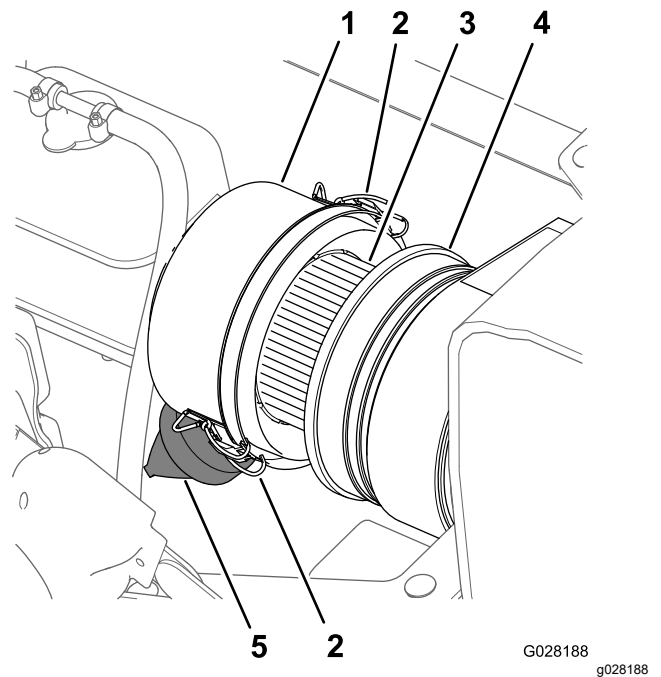
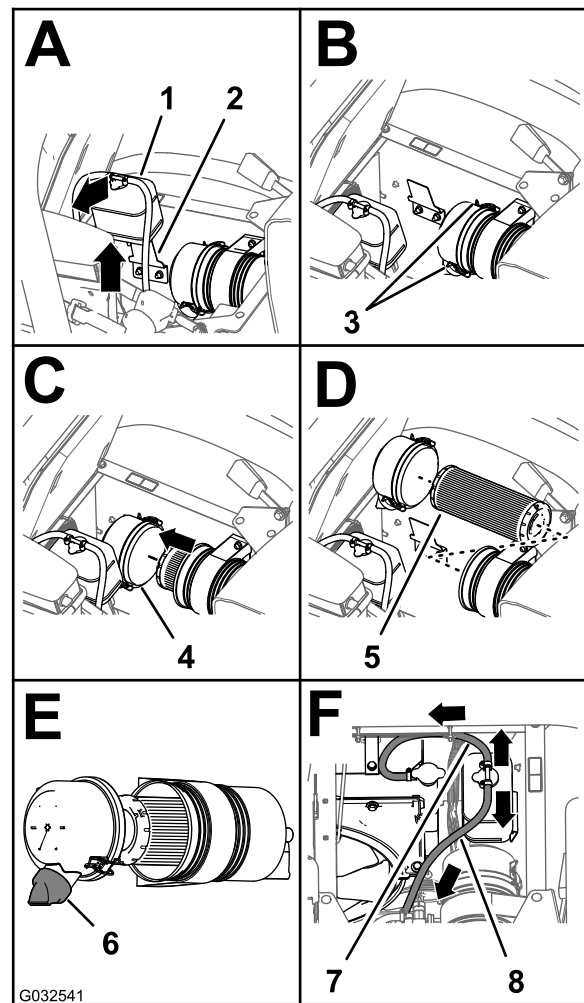

Figure 109
Figure 110
3. Clean the dust cap and air-cleaner body (Figure 109).
4. Check the air-cleaner body for damage that could cause an air leak (Figure 109).
5. Squeeze the dust valve to clear it of dirt, dust, and debris (Figure 109).
7. Check the air-filter element for excessive accumulation of dust, dirt, and debris (Figure 109).
8. Install the dust cap onto the air-cleaner body and secure the cap with the 2 latches (Figure 109).
2. Clean the dust cap and air-cleaner body (Figure 109).
3. Lift the coolant-overflow tank up and off the tank-support bracket (Figure 110).
4. Loosen the 2 latches that secure the dust cap to the air-cleaner body (Figure 110).
6. Clean the inside of the dust cap, air-cleaner body, and dust valve with a damp rag (Figure 109 and Figure 110).
7. Insert the air-filter element into the air-cleaner body (Figure 110).
8. Install the cover onto the air-cleaner body and secure the cover with the 2 latches (Figure 110).
Note: Ensure that the dust valve is aligned between the 5 to 7 o'clock position when viewed from the end (Figure 110).
9. Align the coolant-overflow tank to the tank-support bracket and seat the tank firmly (Figure 110).
Important: Ensure that the pressure-relief hose is routed forward and down, and the tank-vent hose is routed rearward as shown in Figure 110.